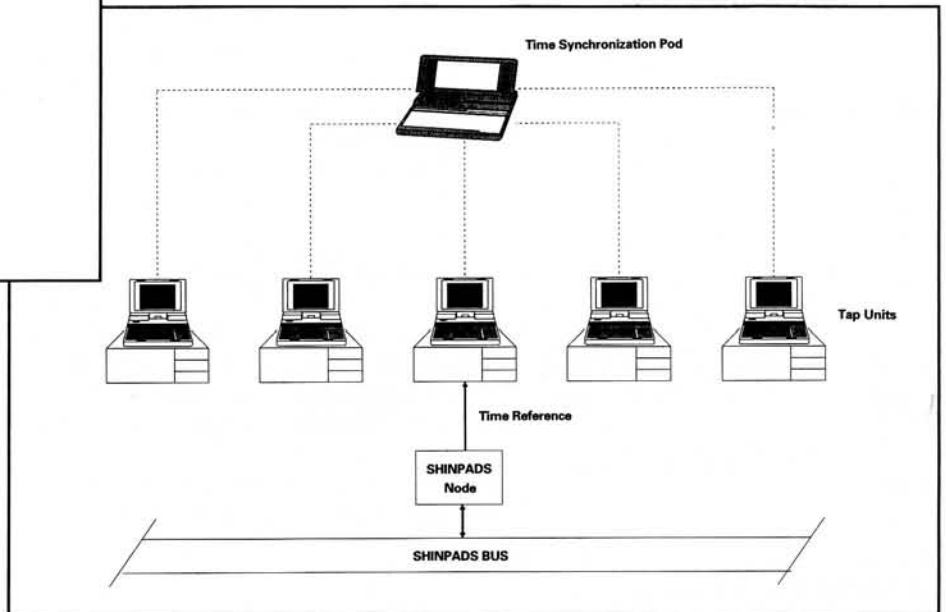

Fig. 3. PMAS Time Synchronization Configuration
The second critical design concept is time synchronization. The system time, stamped on all tap unit recordings, must be synchronized to enable post-trial correlation of each interface's message data. To synchronize physically separated tap units (Fig. 3), one of the units connected to the SPS-49 NTDS D interface with the CCS receives a combat system time reference. This time reference is passed to the portable time synchronization pod which
To examine the propagation and distribution of electromagnetic energy in the waveguide structure as time passes, consider the field component  $E_z$ . (In a three-dimensional Cartesian co-ordinate system there exist six EM field components: three for the electrical field ( $E_x$ ,  $E_y$ ,  $E_z$ ) and three for the magnetic field ( $H_x$ ,  $H_y$ ,  $H_z$ .) *Figure 3* shows black and white reproductions of colour photographs whose colours correspond to relative values of the  $E_z$  field intensity. Although colour could not be reproduced for this article, it is still possible to discern the intensity variation of the field by examining the contrasts.
**Fig. 3.**  $E_z$  field distribution from top and side perspectives (iterations 40 through 150). The path of the energy can be followed as it travels down the waveguide and enters the free-space region to eventually fill it. The extremely complex energy absorbing walls bounding the free-space region allow the simulation's computational domain to be truncated to save memory.